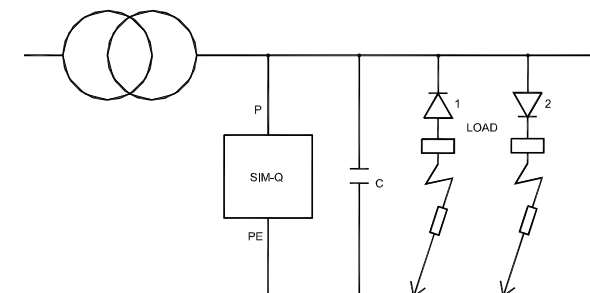

Fig. 4
Because of the measuring method used, the SIM-Q is able to measure the insulation correctly on an AC power network containing all kinds of loads, such as frequency converters (see the technical specifications for working frequency range), valves with rectifiers, thyristor controlled thrusters, switch mode power supplies, transformers, generators etc. The difficulty regarding some of the above-mentioned loads is that an insulation error in e.g. a frequency converter is often located after the rectifier and before the AC output of the converter. This kind of fault will result in a high DC voltage between the power system and the safety cable, which will interrupt the measurement on an insulation monitor based on traditional ohmic resistance measuring method, see figure 4.
If a DC voltage is detected, but the alarm limit value is not yet reached, the +FAULT or the -FAULT LED will flash to indicate that there is a DC voltage higher than 50V DC between the power system and earth (PE), but no insulation error below the alarm limit value yet, see Fig. 4